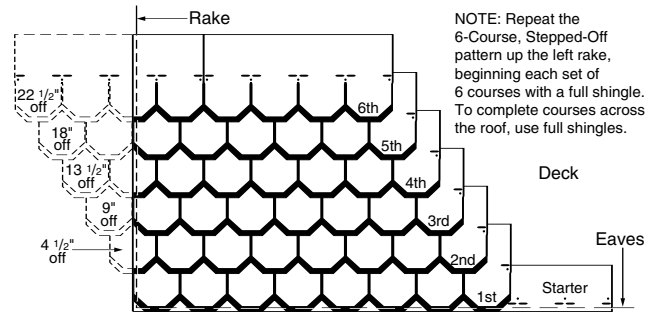

Figure 16-15: Four-and One-Half Off, Six Up (Carriage House).
2. Locate fasteners in starter strip about 1 1/2" up from the bottom edge, so they are centered under the first-course tabs. Continue with full 10" by 36" lengths along the eaves (Figure 16-15).
**1ST COURSE:** Apply a full shingle at the lower left corner of the roof, tabs flush with starter course (Figure 16-15).